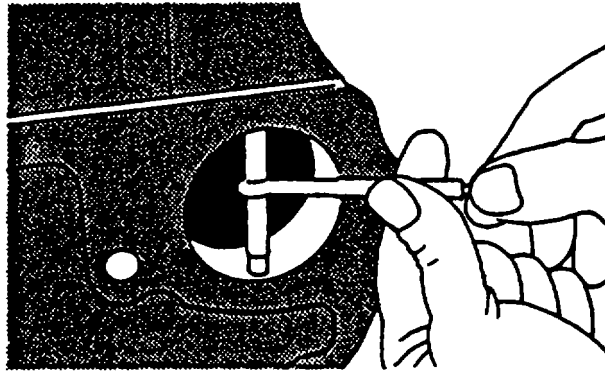

FIGURE 3-159. Measuring Camshaft Bore Diameter
- (5) Measure camshaft bore diameter, refer to FIGURE 3-159. New diameter is 2.204 to 2.25 inches (55.98 to 56.01 mm). If diameter is more than specified, install a new engine block. New camshaft journal clearance (camshaft bore ID minus camshaft journal OD) is 0.003 to 0.005 inch (0.08 to 0.13 mm). Maximum clearance is 0.006 inch (0.15 mm).